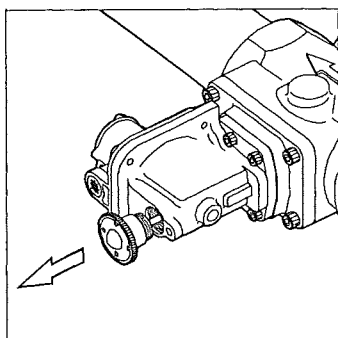

Fig. 8.
16) Re-cock OPSS device by unscrewing reset spindle end cap and firmly pull. Hold in this position until the outlet pipework is fully pressurised, then release reset spindle end cap gently. Re-screw reset spindle end cap into body. See Fig. 8.
24) Re-cock UPSS device by unscrewing reset spindle end cap and firmly pull. Hold in this position until the outlet pipework is fully pressurised, then release reset spindle end cap gently. Re-screw reset spindle end cap into body. See Fig. 8.